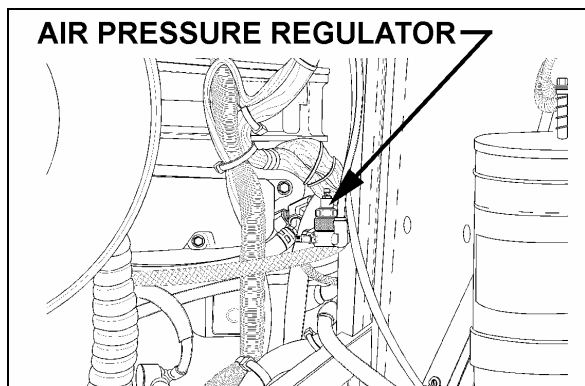

FIGURE 13: AIR PRESSURE REGULATOR (TYPICAL) 07037
10. If the vehicle is equipped with a retarder; install the bracket on the transmission and tighten the bolt to 71-81 Lbf-ft (96-110 Nm). Install the transmission rubber mount between the rubber support and the frame with a bolt, nut and washer. Tighten the nut until the tolerance of 58 ± 2 mm is met (Fig. 13).
21. Adjust the retarder pressure to 80 ± 3 psi with the air pressure regulator. For more information refer to Section 12, "BRAKE AND AIR SYSTEM", under heading "AIR PRESSURE REGULATOR". The air pressure regulator is located at back of engine compartment, on R.H. side (Fig. 13) or in the R.H. side rear service compartment.